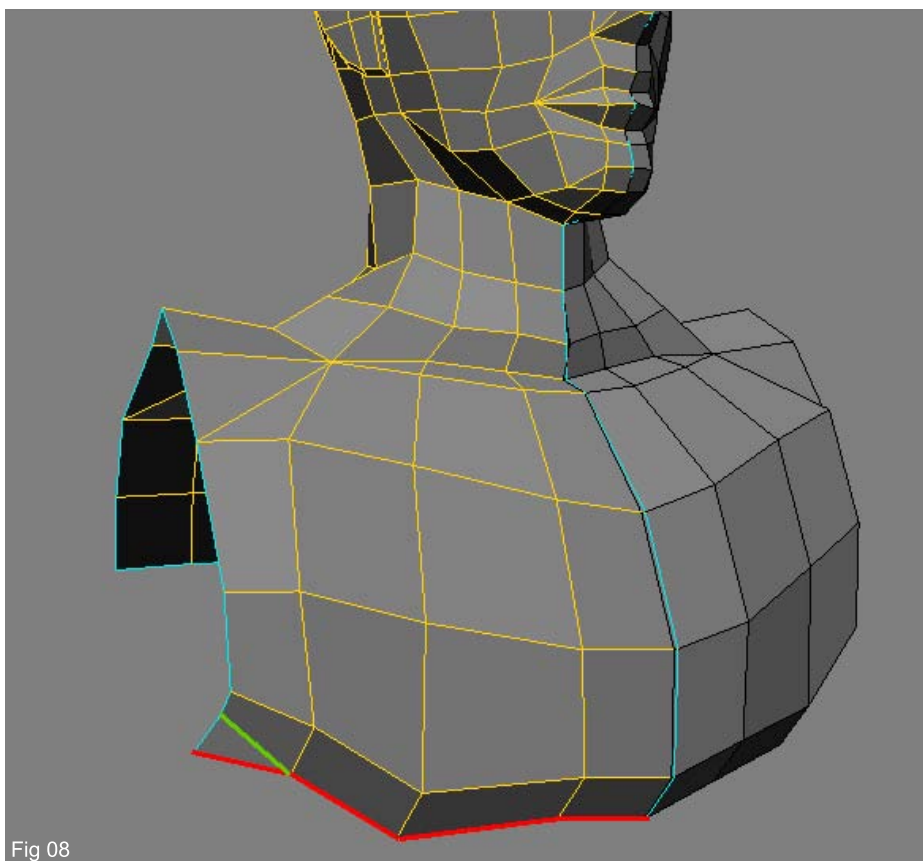

Fig 08
8. Let's go back to the front chest. Extrude a new loop of edges, but this time also pull it inwards like shown in Fig08. Finally add a new cut (show in green in Fig08).